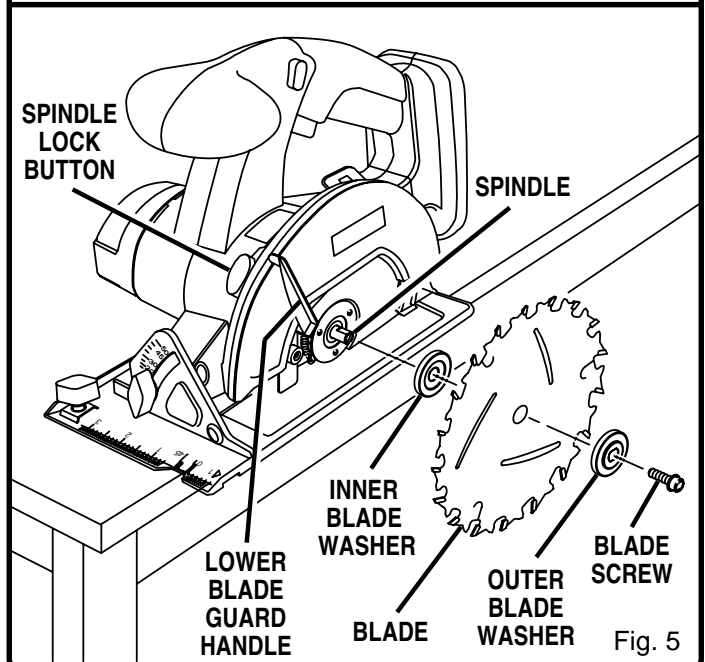

Fig. 5
- Depress spindle lock button and remove blade screw and outer blade washer. See Figure 5.
**NOTE:** The saw teeth point upward at the front of saw as shown in figure 5.
- Remove outer blade washer. See Figure 5.